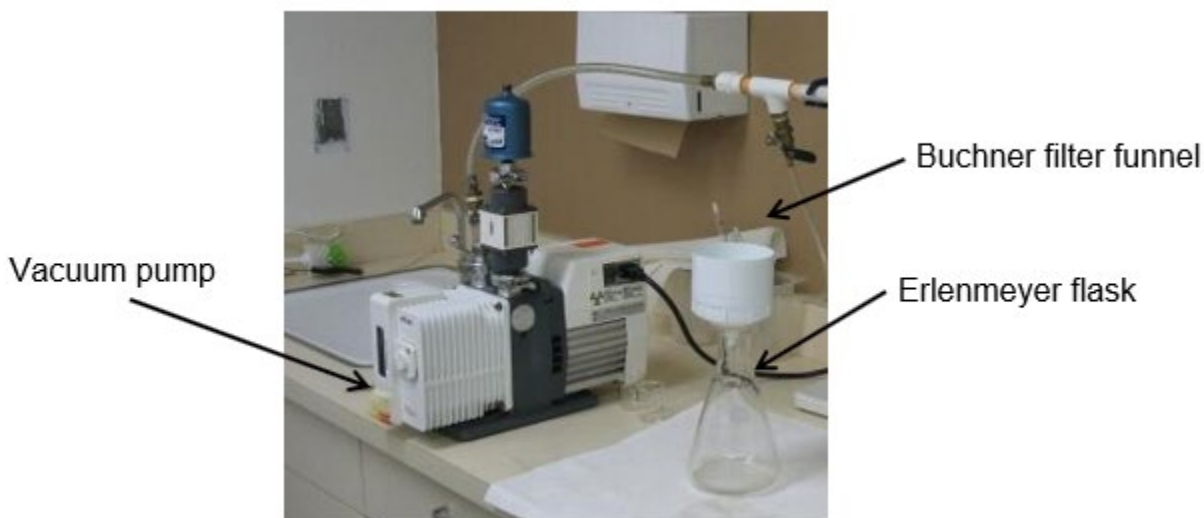

Figure 1. Filtering apparatus with Adixen vacuum pump, Buchner filter funnel, and Erlenmeyer flask.
3.2.3 Attach a Buchner filter funnel to an Erlenmeyer flask, then attach the tubing to the Buchner filter funnel (Figure 1).